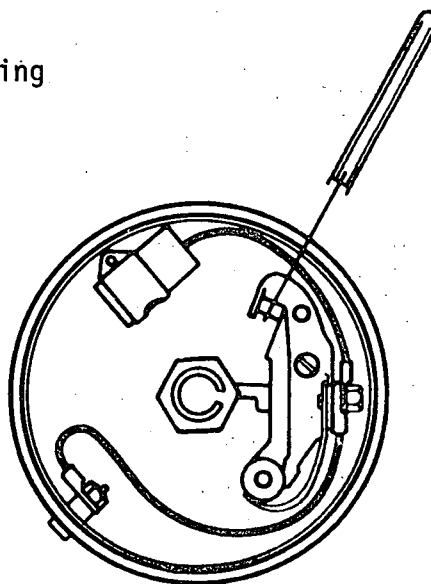

Fig. 6
- b) Adjust the contact point gap with a thickness gauge, having moved the fixed contact point (fig. 6).